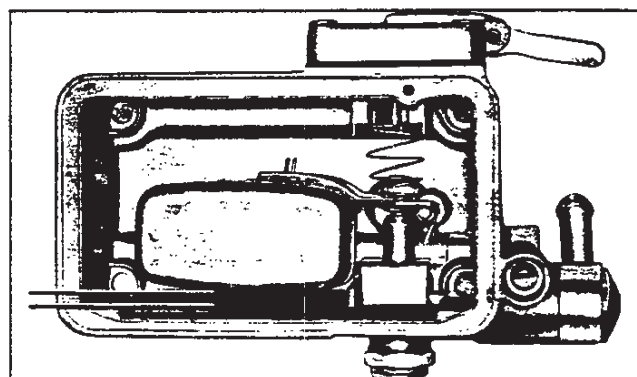

Fig. 15—Preliminary Float Adjustment
- Make a preliminary float adjustment (fig. 15) by inverting fuel bowl and turning adjustable needle-seat until top of float is parallel with top of fuel bowl.